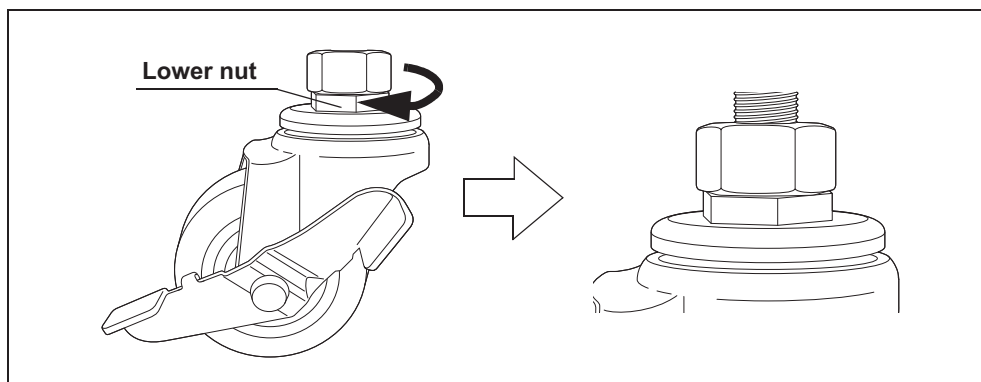

Figure 4.109
- 1 Using the provided wrench, turn the lower nut on each caster in the direction shown in Figure 4.109 to set the desired height.